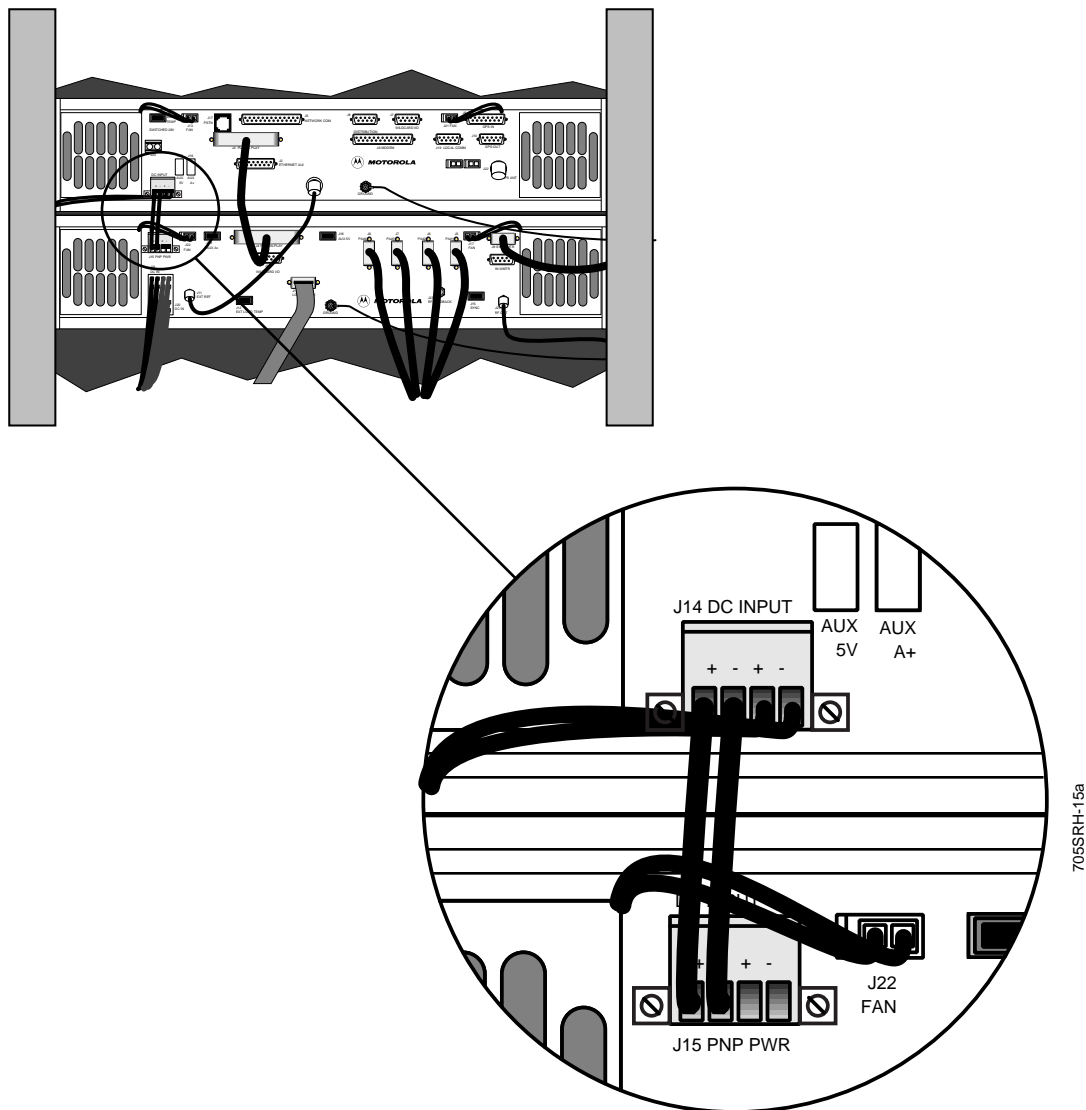

Figure 6-17: Rear View of RF-B! Transmitter Controller and RF-O! Transmitter Backplane
3. From the rear of the cabinet, loosen the two screws securing the connector to J14 on the RF-B! transmitter controller backplane (see Figure 6-17) and disconnect the connector.
4. Loosen the two screws securing the connector to J15 on the RF-O! transmitter backplane (see Figure 6-17) and disconnect the connector.
5. Attach the connector with two wires to J15 on the RF-O! transmitter backplane and tighten the screws (see Figure 6-17).